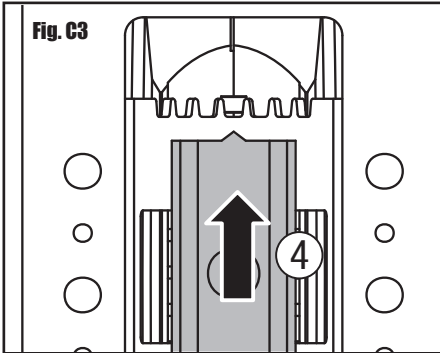

Fig. C3
- 4) Hold the base plate in position, slide the base plate forwards to match the groove to lock. (See Fig. C3)